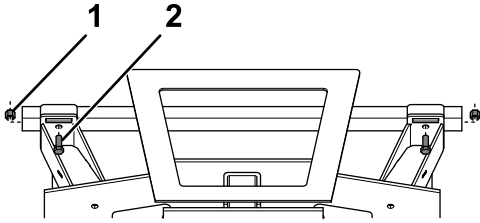

Figure 3
6. Loosely attach the top of the mounting brackets to the frame using 2 bolts (3/8 inch) and nuts (Figure 3).